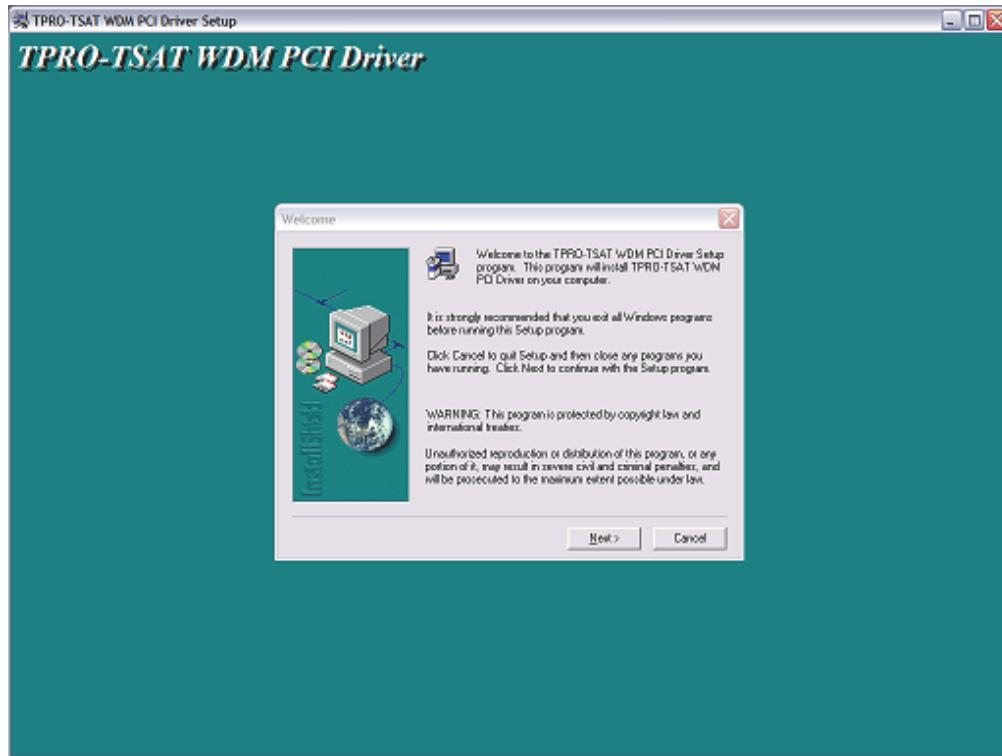

Figure 5-16. TPRO-TSAT WDM PCI Driver Installation Progress
3. Select **Next**. See Figure 5-16.